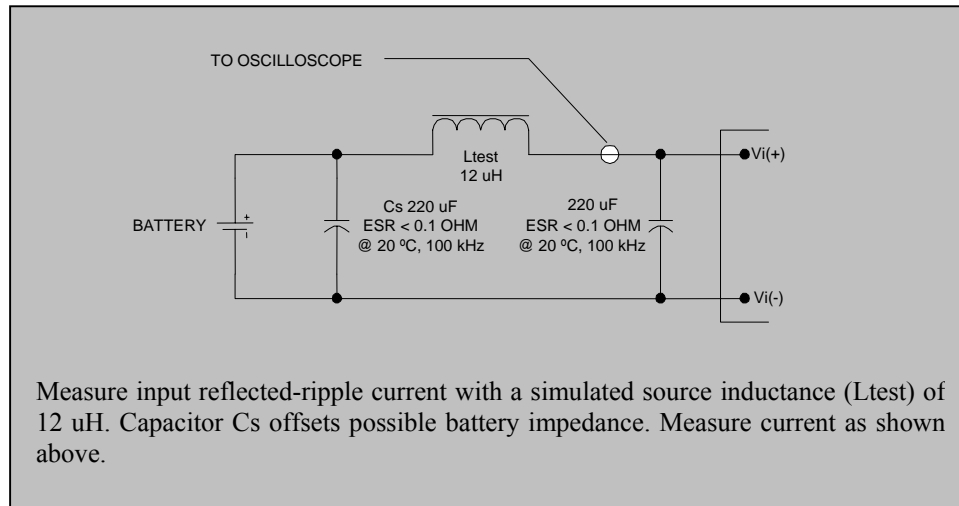

Figure 1. Input Reflected Ripple Current Measurement Setup.
2. See Figure 1 for the input ripple current test setup.